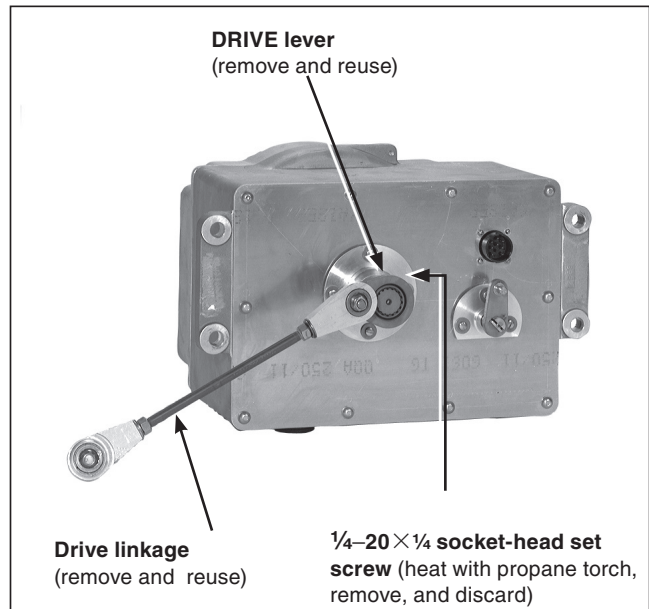

Figure 8. Reattaching the DRIVE lever and drive linkage.
STEP 8. Attach the DRIVE lever saved in Step 6 to the shaft on the back of the replacement operating mechanism. Make sure it is oriented in the same manner as shown in Figure 8. The DRIVE lever must be attached so the stud on the lever is pointed horizontally away from the TRIP lever. Coat the threads of a $\frac{1}{4}$ -20 \times $\frac{1}{4}$ socket-head set screw (included with the replacement kit) with a small amount of red Loctite threadlocker and tighten the set screw into the hole in the DRIVE lever.
Reconnect the drive linkage saved in Step 6 to the DRIVE lever on the replacement operating mechanism using a $\frac{3}{8}$ -16 elastic nut (provided with the replacement kit). See Figure 8.